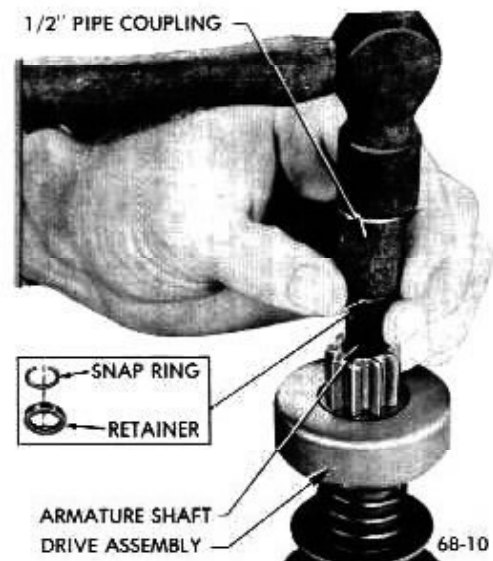

Figure 68-10 Removing Pinion Stop Retainer and Snap Ring
7. To remove drive assembly from armature, place a metal cylinder of proper size (1/2" pipe coupling will do) over end of shaft to bear against the pinion stop retainer. Tap retainer toward armature to uncover snap ring. See Figure 68-10. Remove snap ring from groove in shaft, then slide retainer and pinion drive assembly from shaft.